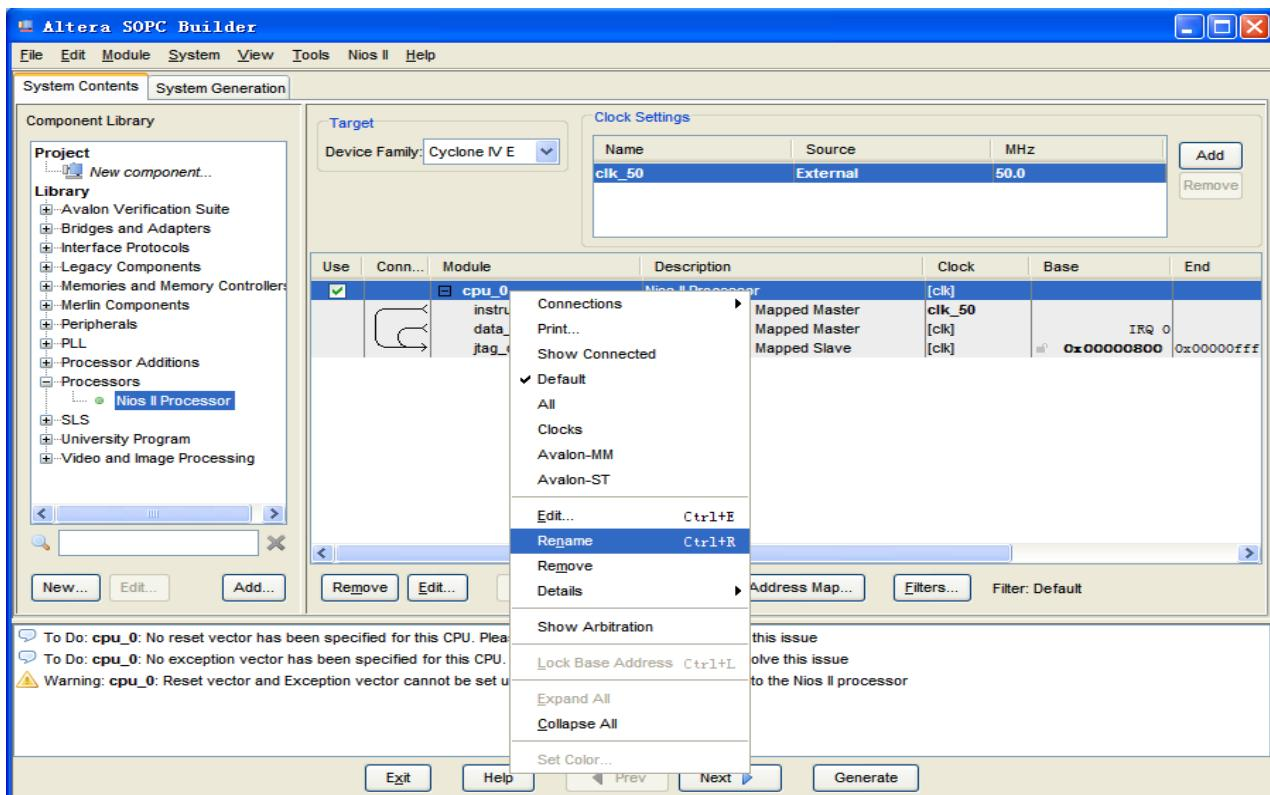
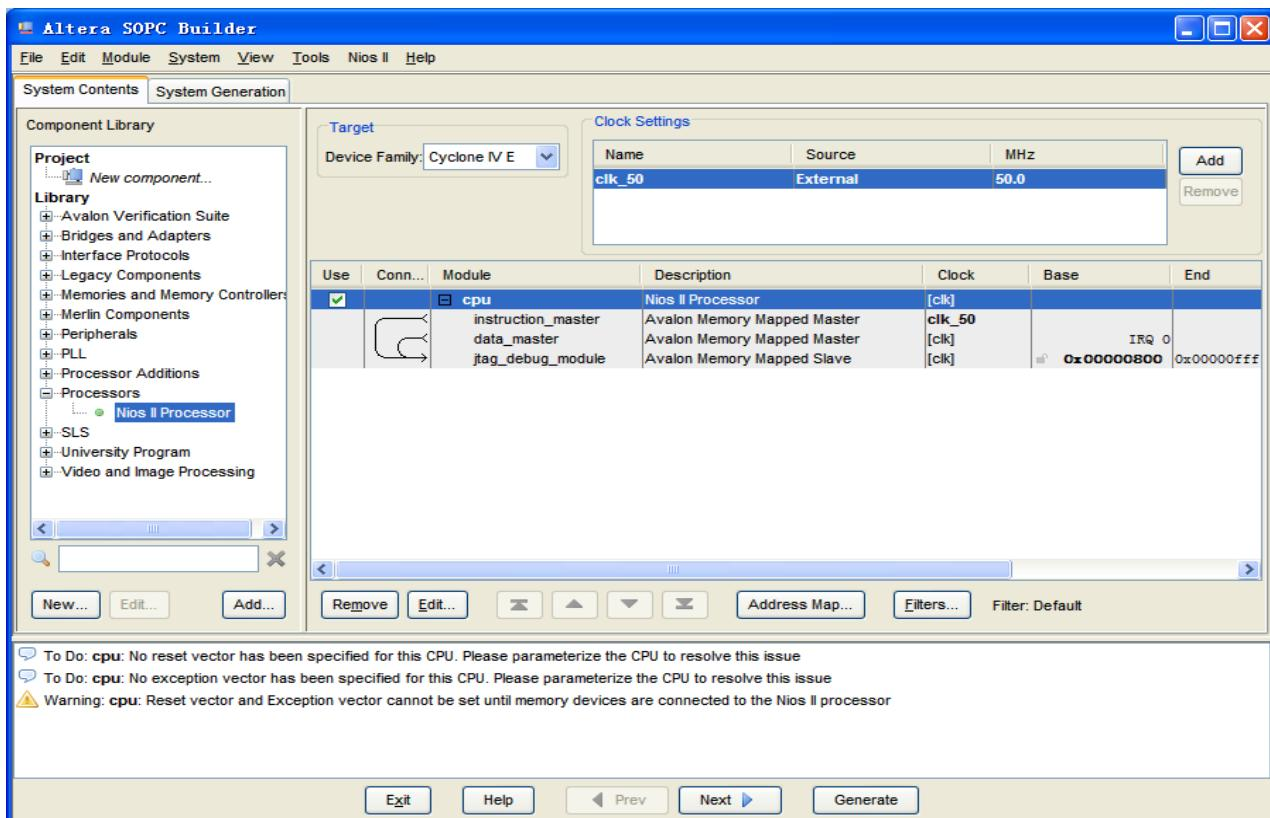

Figure 7-17 Rename the CPU (1)
Figure 7-18 Rename the CPU (2)
10. Select the **cpu\_0** component and right-click then select rename, after this, you can update **cpu\_0** to **cpu**, as shown in **Figure 7-17** and **Figure 7-18**.